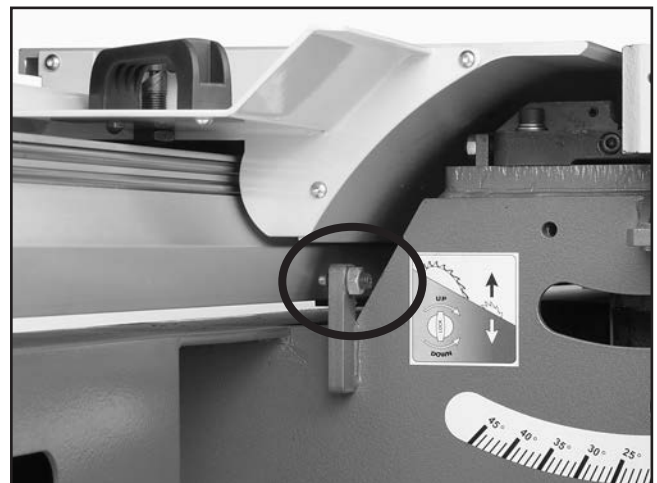

Figure 138. Table parallelism adjustment screw.
8. Loosen the hex nut on the parallel adjustment screw (see **Figure 138**), then adjust the screw as necessary to move the table. If you move the adjustment screw away from the table, then push the table against the screw before proceeding.